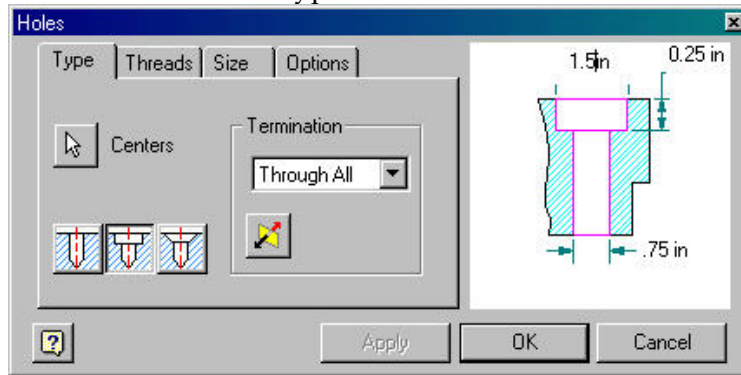

Figure 13
- Choose Counterbore for the hole type and set the dimensions as shown in Figure 13.